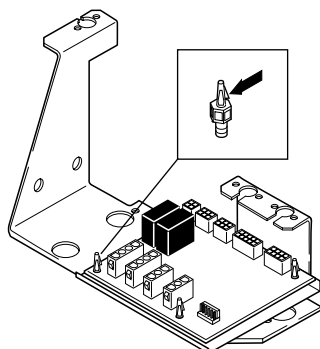

Figure H.22
- c) Detach the PCB from its holders (see Fig. H.22).